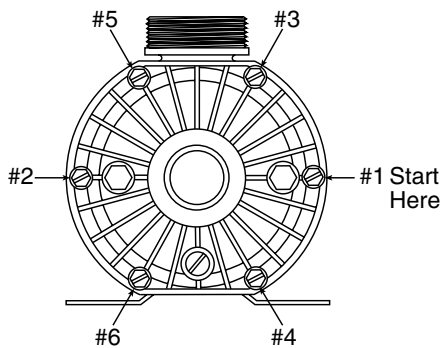

Figure 8 – Torque Sequence
6. Remount front plate; using pattern, shown in Figure 8, torque bolts to 30 inch-lbs. (34.5 cm-kg). **BE SURE** to start with bolt in 3 o'clock position as shown.